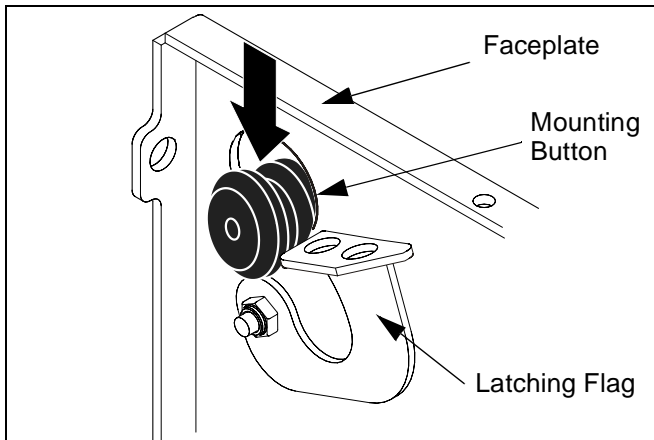

Figure 6: Lower Display onto Faceplate
5. Lower display until recessed area of mounting buttons seats into lower area of teardrop mounting holes in faceplate. (see Figure 6)